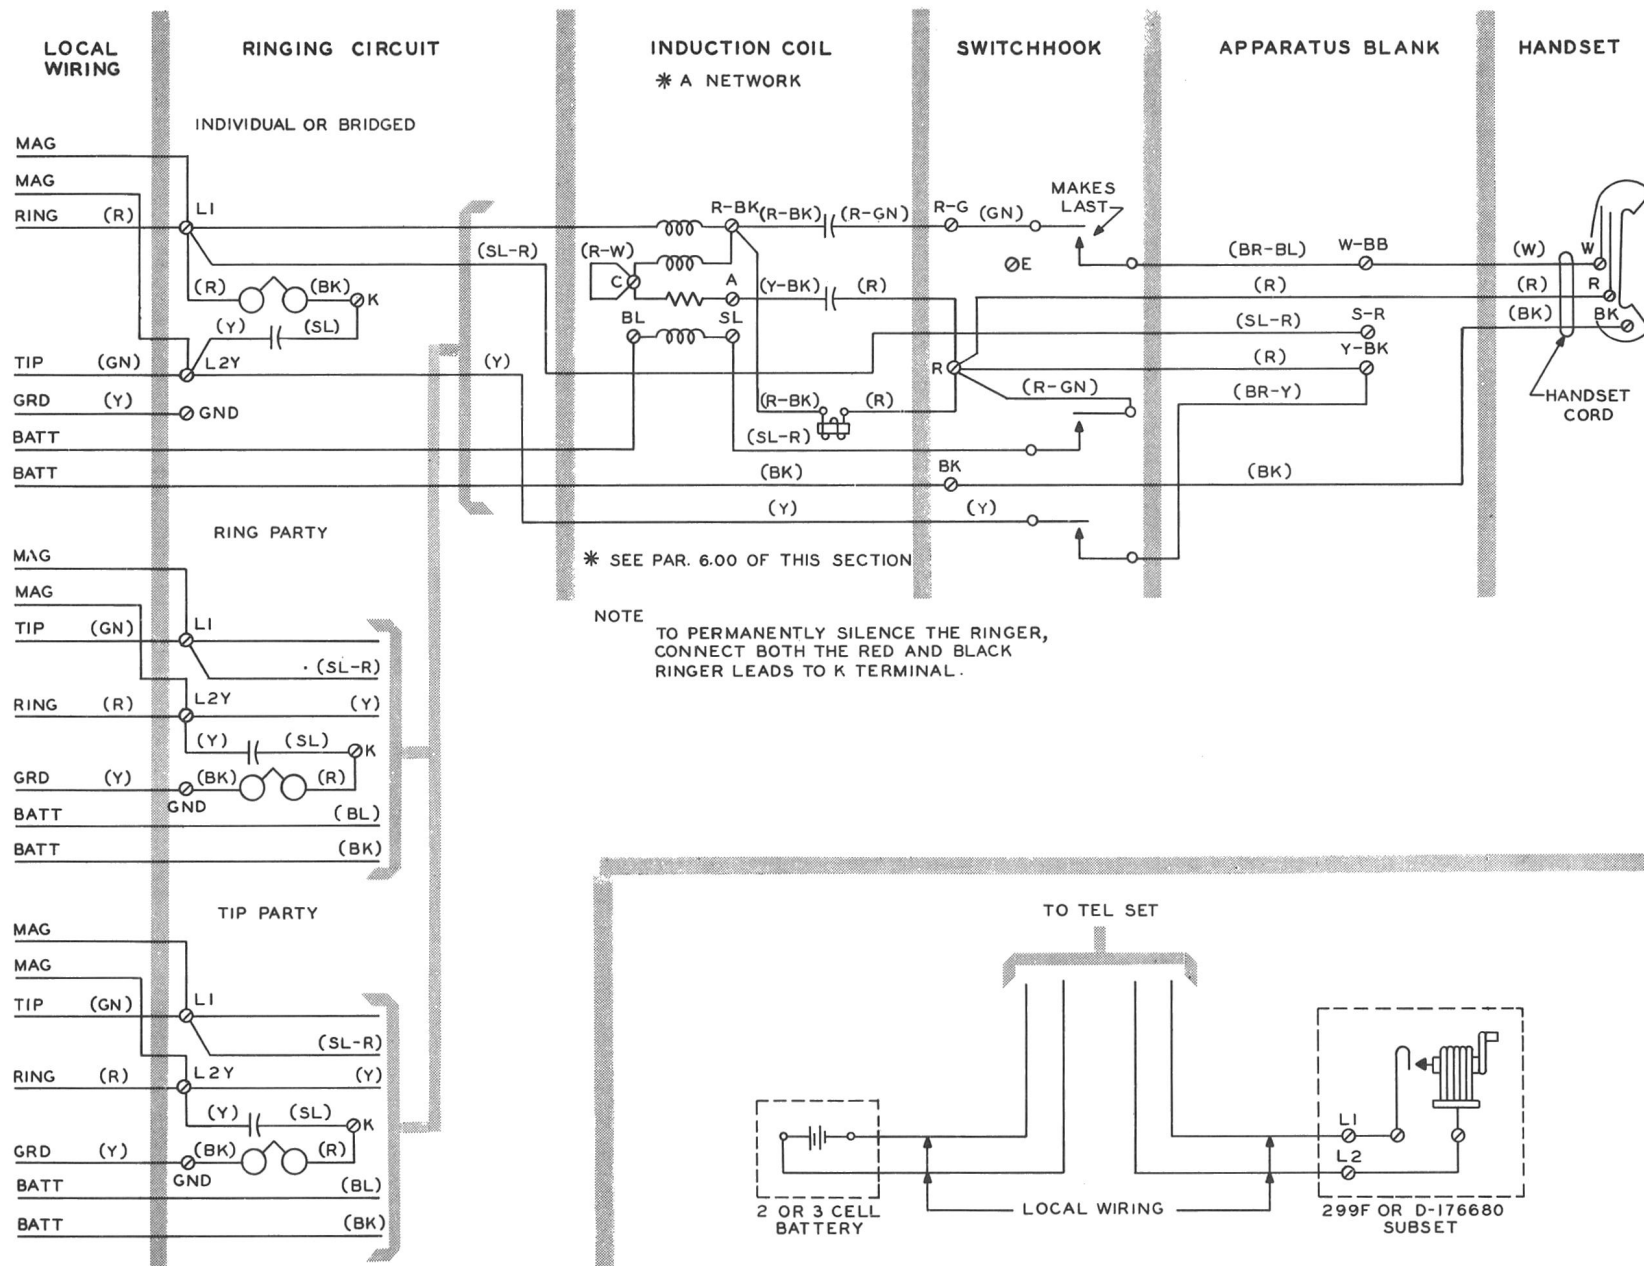

FIG. 5—357A CIRCUIT DIAGRAM
5.01 Where the transmitter battery for more than one station is obtained from a common source of supply, such as battery feed from the central office, the following changes in Fig. 5 must be made:
- Connect the red, black, and white conductors of the F2 handset the same as shown for the F1 handset in Fig. 5.
6.02 This set is normally furnished with the type A network as indicated in Fig. 5. Necessary changes in the set to obtain other networks are as follows: